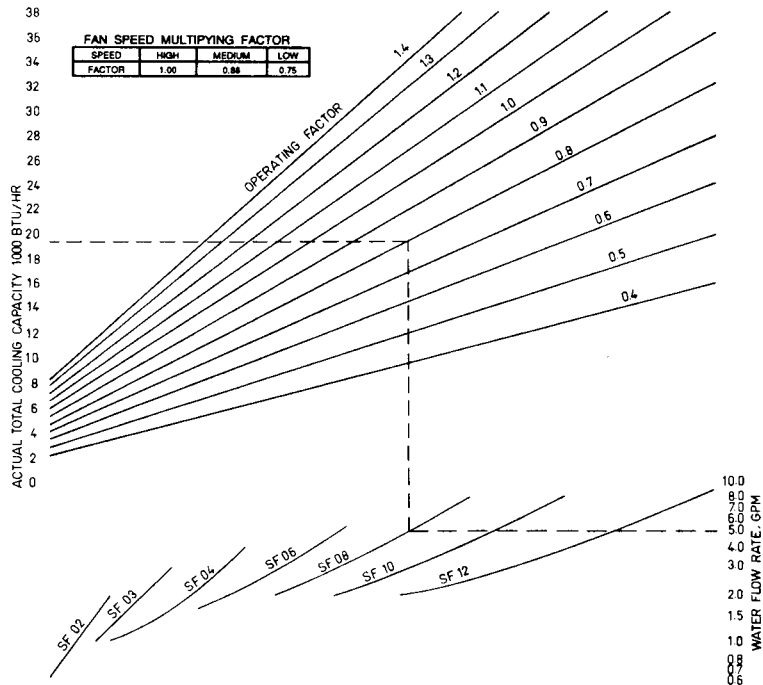

FIGURE 2. WET RATING (COOLING AND DEHUMIDIFICATION), TOTAL COOLING CAPACITY
FIGURE 2 is used to find the sensible cooling capacity as a function of water flow rate (gpm), the operating factor (OF), unit size, entering air dry bulb temperature and entering water temperature. To determine the sensible cooling load capacity, enter this plot at the given water flow rate (5 gpm) and proceed to the right until this line intersects the given unit size (SF-08) as shown by the dotted line. From this point project a straight vertical line upward crossing the predetermined operating factor line (0.8), then extend a horizontal line to the right until this line intersects the given entering water temperature line (46°F). From this point proceed vertically downward until this line intersects the given entering air temperature (79°F). Then proceed horizontal until this line intersects the unit size line (SF-08).